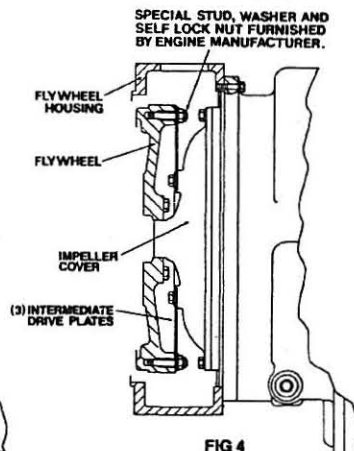

FIG 4
5. Locate transmission on flywheel housing aligning drive plate to flywheel and transmission to flywheel housing. **NOTE:** Fig. 4 installation, align drive plate holes with flywheel studs.
7. Install drive plate attaching screw and washer. Snug screw but **do not tighten**. **NOTE:** Fig. 4 installation, install drive plate attaching washers and nuts. Tighten each nut 28 to 30 ft. lbs. torque [38,0 - 40,6 N.m]. Some engine flywheel housings have a hole located on the flywheel housing circumference in line with the drive plate screw access hole. A screwdriver or pry bar used to hold the drive plate against the flywheel will facilitate installation of the drive plate screws. Rotate the engine flywheel and install the remaining seven (7) flywheel drive plate attaching screws. Snug screws but **do not tighten**. After all eight (8) screws are installed torque each one 25 to 30 ft. lbs. torque [33,3 - 40,6 N.m]. This will require torquing each screw and rotating the engine flywheel until the full amount of eight (8) screws have been tightened.
* Does not apply to units having 3 intermediate drive plates. See Fig. 4.